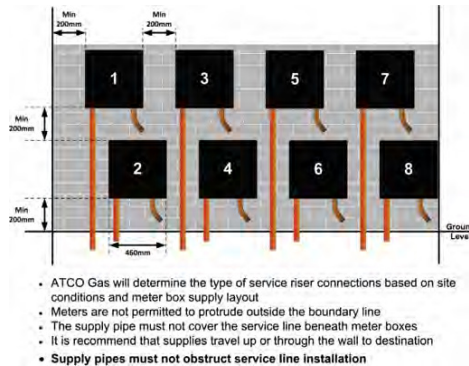

Figure 35 AL8 Non-Standard Gas Meter Bank Layout – Gas Meter Boxes
- Gas meter boxes must be supplied and installed by the Responsible Person and mounted in accordance with dimensions as shown in Figure 34 and Figure 35.
- Each lateral branch must be controlled by a valve (greater than three (3) gas meters).